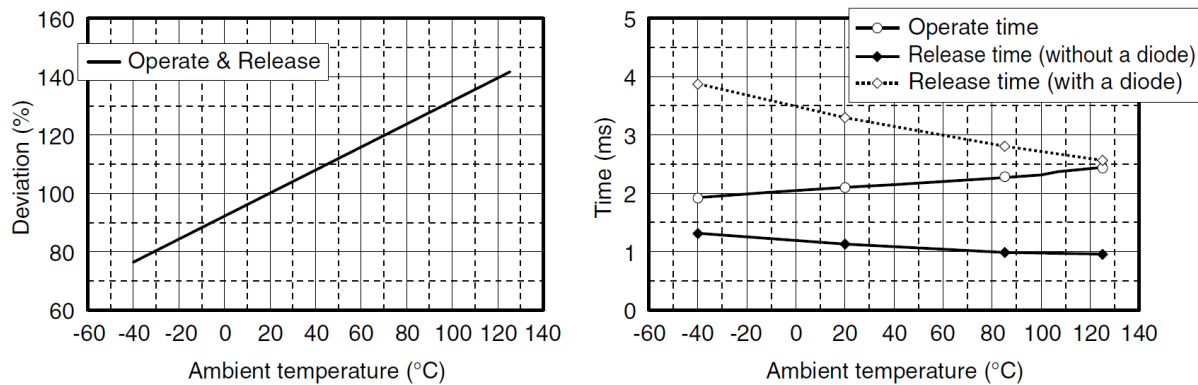

Figure 5 Temperature characteristics of relay (example: EX2 relay)
- Please use the relay at coil rated voltage within the specified temperature range. NOTE: Permissible coil voltage may be restricted and must be confirmed before the relay is used. (Refer to (2) in "Maximum applied coil voltage").
- The operating characteristics of the relay change with ambient temperature. Confirm the temperature condition in the application and confirm the characteristics changes at the technical documents. Figure 5 shows the example of the temperature characteristics.